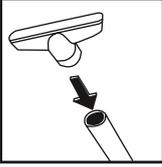

Fig. 11
10. Choose the pipes or accessories to use and insert in the hose. (Fig. 11)